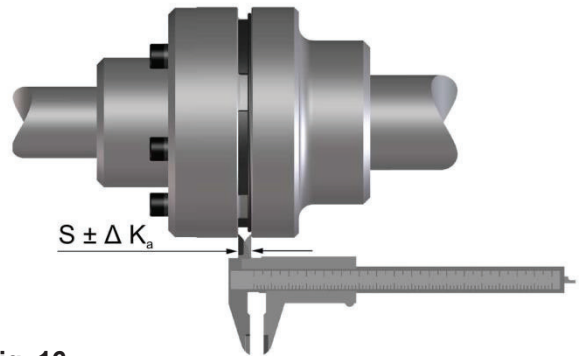

Fig. 16
- ☐ Measure the axial installation backlash S (Fig. 16).